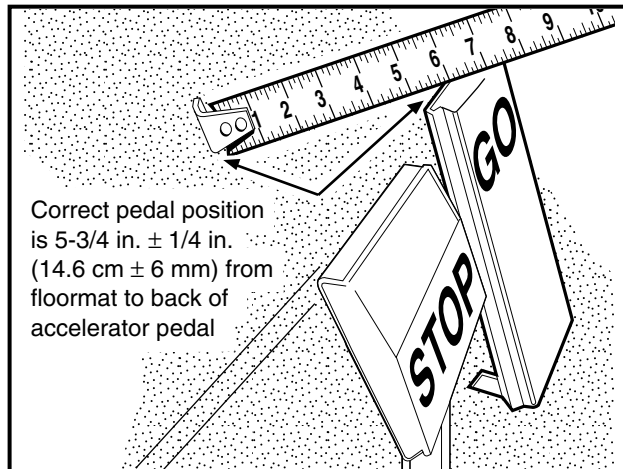
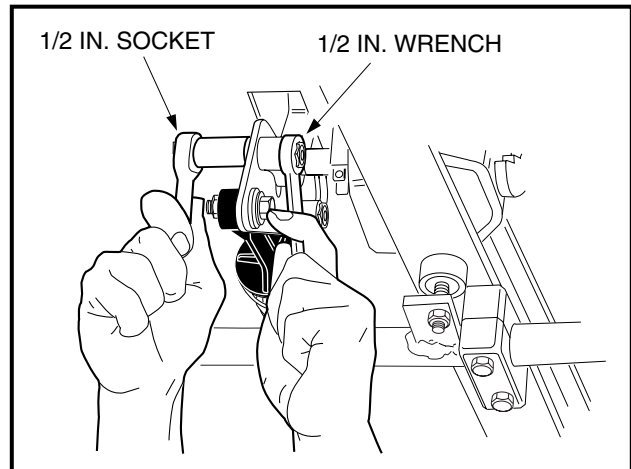
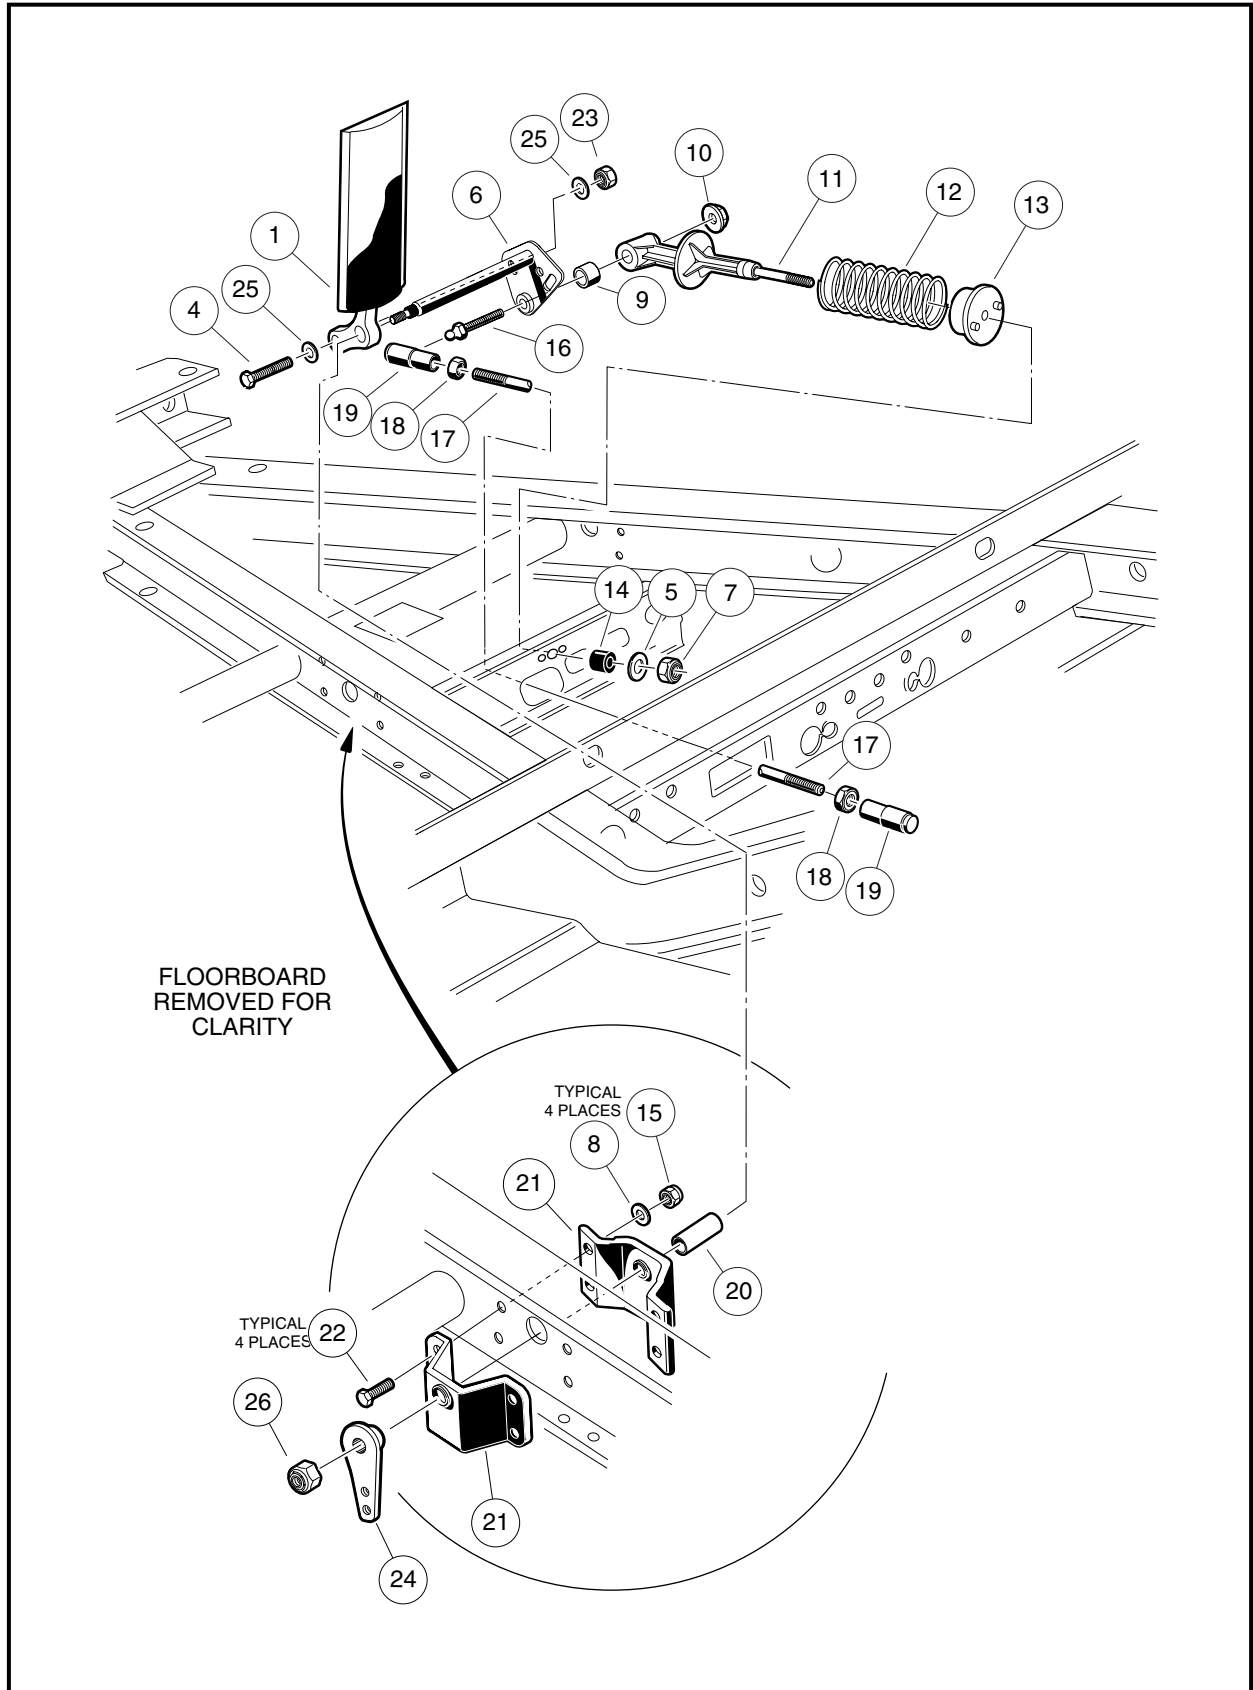

Figure 5-7 Accelerator Pedal Height
Figure 5-8 Accelerator Pedal Adjustment
Figure 5-11 Accelerator Pedal Assembly
4. Use a 9/16-inch socket and 9/16-inch wrench and remove the nut (23), two washers (25), and bolt (4) securing the accelerator pedal (1) to the pivot rod (6) (**Figure 5-11, Page 5-9**).
6. Remove the nut (10) and ball stud (16) from the accelerator pivot rod (6) and spring retainer (11) assembly.
7. Slide the spring retainer (11) off of the accelerator pivot rod.
8. Inspect the pivot support bearing (9), inside the spring retainer, for wear and replace if necessary.
9. Remove lock nut (26) from the accelerator pivot shaft.
10. Move the brake pedal slightly and then slide the spacer (24) toward end of accelerator pivot rod, releasing the splined fit between the two. Rotate the spacer (24) and remove from the pivot rod (6).
11. Loosen, but do not remove, the four bolts (22) and lock nuts (15).
12. Slide the pivot rod (6) from the accelerator pivot rod supports (21), nylon spacer (20), and accelerator (1). Remove both the pivot rod (6) and the accelerator pedal (1).
13. Inspect the accelerator pivot rod support bearings (21) and all parts for wear or damage and replace as necessary (**Figure 5-11, Page 5-9**).
1. If replaced, position the supports (21) on the vehicle frame and loosely install the four bolts (22), washers (8), and lock nuts (15) and finger-tighten (**Figure 5-11, Page 5-9**).
2. With another person, position accelerator pedal (1) through the floorboard and slide the accelerator pivot rod (6) through the upper hole in the pedal, through the nylon spacer (20), and through the two pivot rod supports (21).
3. Tighten bolts (22) to 75 in-lb (8.5 N·m).
4. Install spacer (24), aligning the splined parts, and tighten the nylon lock nut (26) to 18 ft-lb (24.5 N·m).
5. Insert bolt (4) through a washer (25) and through the lower hole in the pedal, then through the adjacent slotted hole in the pivot rod (6). Attach the remaining washer (25) and nut (23). Finger-tighten nut. **See Accelerator Pedal Adjustment on page 5-6.**
6. Insert pivot support bearing (9) into spring retainer (11) and onto the boss of the pivot rod plate.
7. Install the ball stud bolt (16) through the pivot rod (6) and pivot support bearing (9). Secure these parts with nut (10) and tighten to 50 in-lb (5.5 N·m).
1. Measure the distance from the top of the accelerator pedal to the floorboard. If it is within the range of 5-3/4 inches  $\pm$  1/4 inch (14.6 cm  $\pm$  6mm) (**Figure 5-7, Page 5-7**), adjusting the accelerator pedal is not necessary. Tighten the nylon lock nut (23) to 26 ft-lb (35.3 N·m) (**Figure 5-11, Page 5-9**) and proceed to step 8. If adjustment is necessary, proceed to step 2.
4. Loosen the nut and bolt securing the accelerator pedal to the pivot plate (**Figure 5-8, Page 5-7**).
- 6.1. Adjust the distance from the floorboard to the back of the accelerator pedal to be 5-3/4 inches  $\pm$  1/4-inch (14.6 cm  $\pm$  6mm) (**Figure 5-7, Page 5-7**). Tighten nut to 26 ft-lb (35.3 N·m) (**Figure 5-8, Page 5-7**).
- 7.2. Loosen the jam nuts (18) and disconnect the accelerator rod (17) at the accelerator pedal (**Figure 5-11, Page 5-9**). Adjust the length of the rod so the indicated cam edge is parallel with the edge of the electrical component box (**Figure 5-10, Page 5-8**). See following **CAUTION**.
8. Connect the accelerator rod at the accelerator pedal (**Figure 5-11, Page 5-9**).
- 8.3. Hold the ball joint at each end of the accelerator rod (17) with pliers and tighten the accelerator rod jam nuts (18) against each ball joint (**Figure 5-11, Page 5-9**).